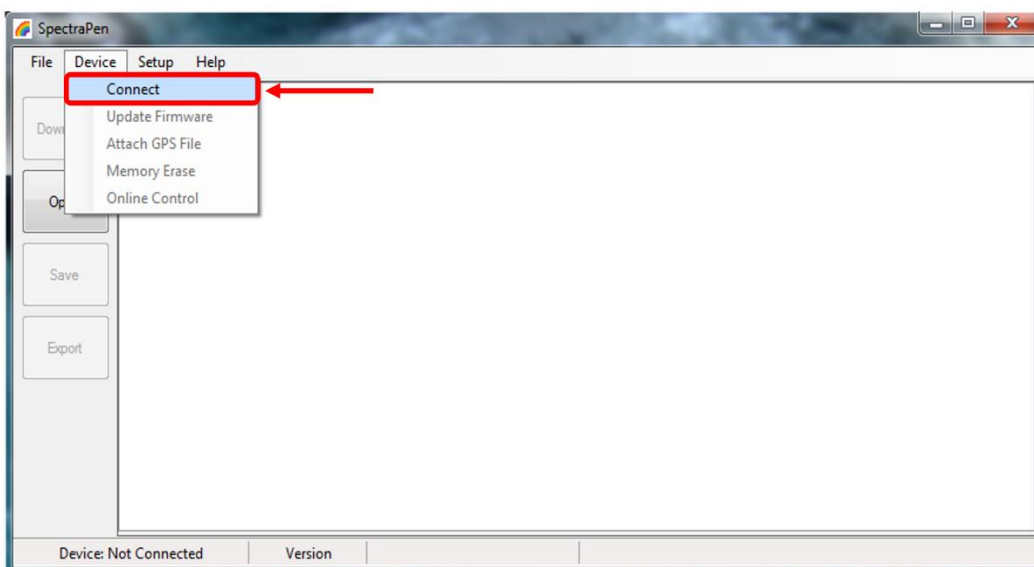

Fig. 17 SW connection.
5. Connect SpectraPen device in SpectraPen software, **Device > Connect** (Fig. 17)